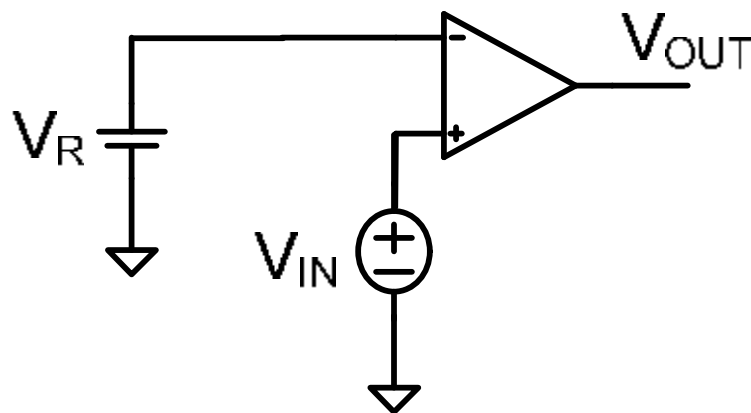

Fig. 3 Open-Loop Amplifier
a) Consider the circuit shown in Fig. 3.